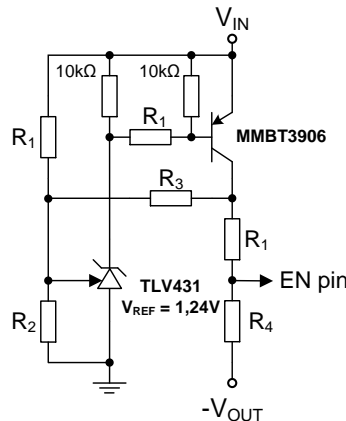

Figure 13: Level-shifting comparator for precision UVLO with controlled hysteresis
In some applications the large hysteresis between the rising enable UVLO threshold (V_{EN}) and the falling, shutdown threshold (V_{SD}) can be an advantage, but in most cases the difference between V_{EN} and V_{SD} is less than one volt. In order to achieve a small hysteresis a level-shifting comparator is needed. Figure 13 shows one example built with low-cost parts.
- To set the hysteresis as defined in Section 4.8.1, remove both R_{ENT} and R_{ENB}. Assemble the circuit of Figure 13 along with the calculated values on a small section of perforated PCB (“perfboard” or “dot PCB”) and then connect it with the shortest wiring possible to the V_{IN}, GND, -V_O and EN nodes of the evaluation board.